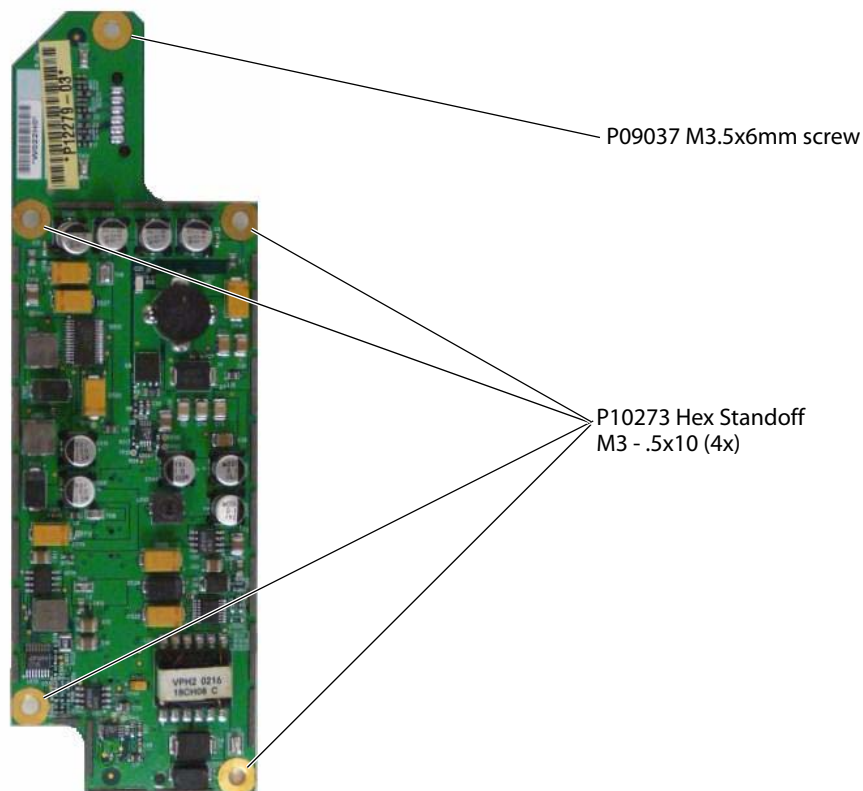

Figure 4.5 Power Supply PCB Replacement
- 3 Remove the hex standoffs (x4) as shown in Figure 4.5.
- 4 Remove the screw as shown in Figure 4.5.
- 3 Reinstall the one screw and the four hex standoffs in the locations shown in Figure 4.5 and torque all fasteners to 5.5 inch/pounds (62 newton-centimeters).